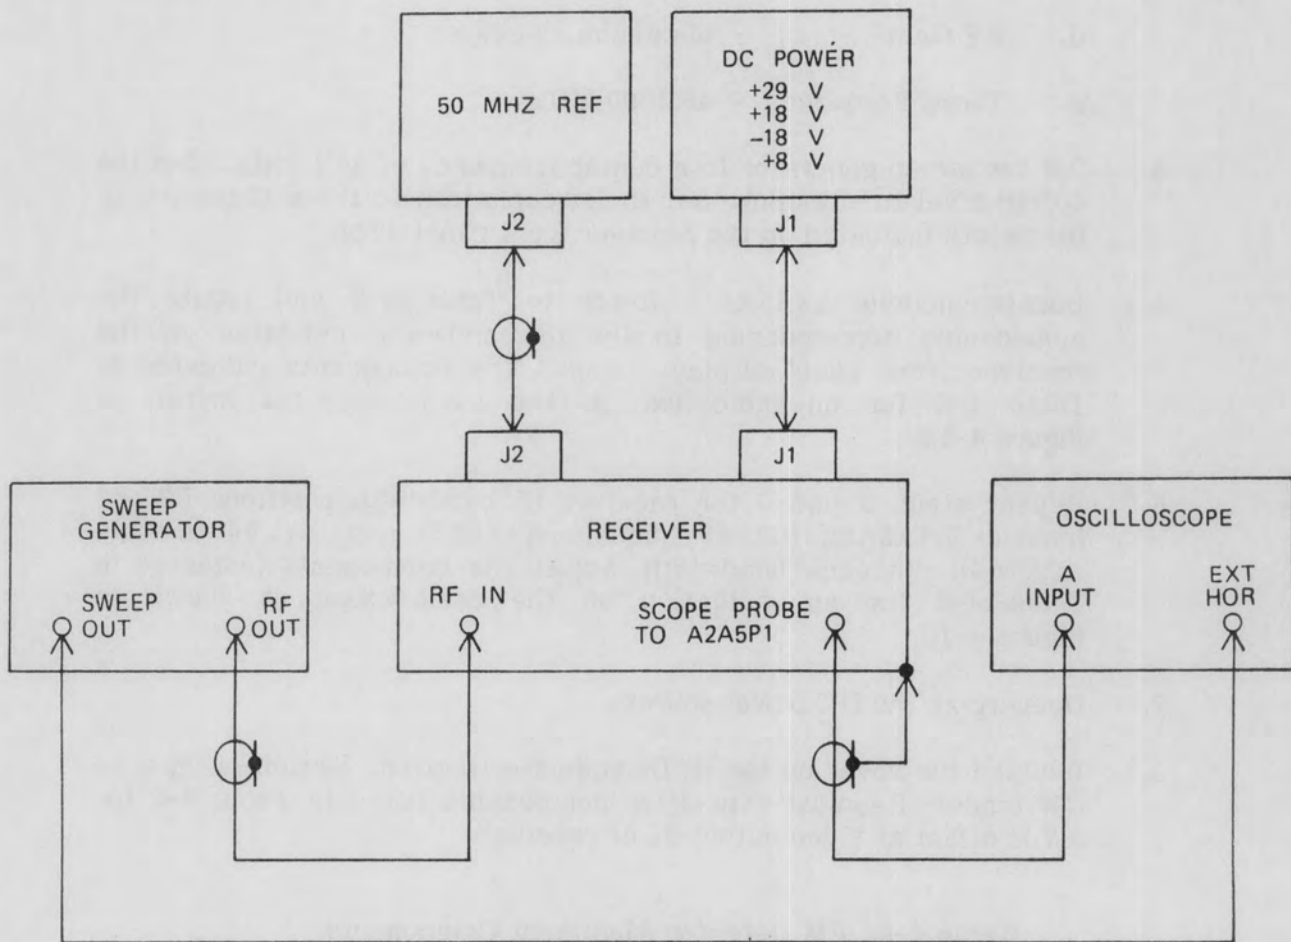

Figure 4-15. FM Detector Alignment Equipment Setup
1. Remove the IF Demodulator cover and connect the receiver as shown in **Figure 4-15**.